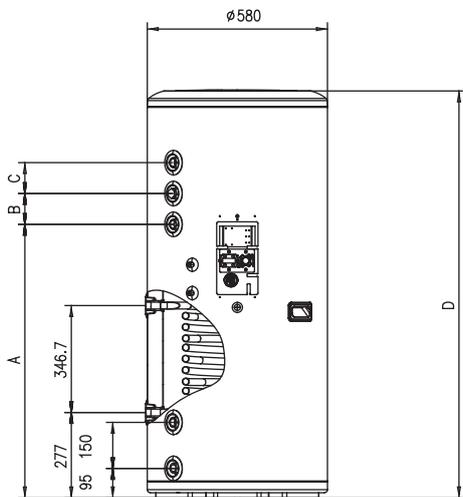
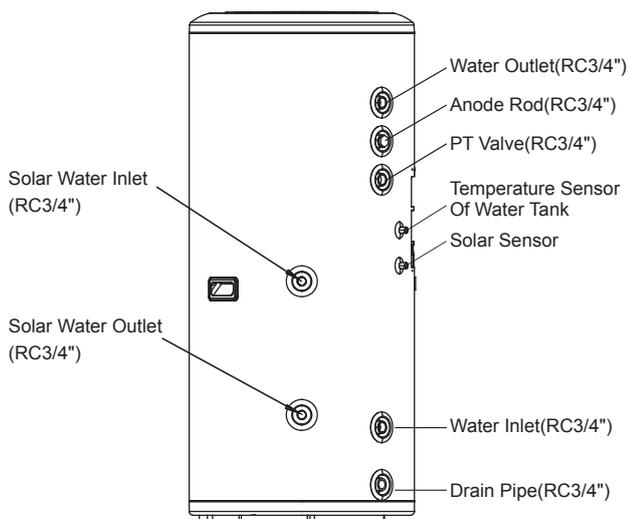

Fig. 5-1
Fig. 5-2
- Outline dimensional drawing(see Fig.5-1, Fig.5-2)